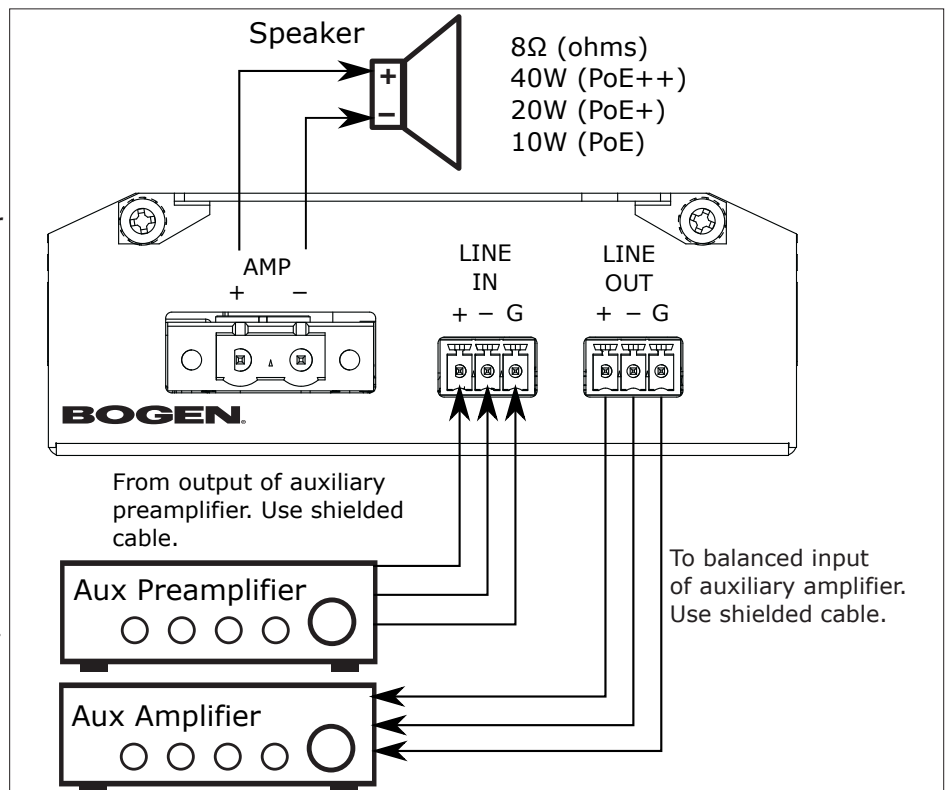

Figure 1
1. Attach the desired analog speaker to the NQ-GA40P3 using the pluggable connectors provided, where the + and - terminals connect to the +/- speaker wires (see "Figure 1" on page 2).